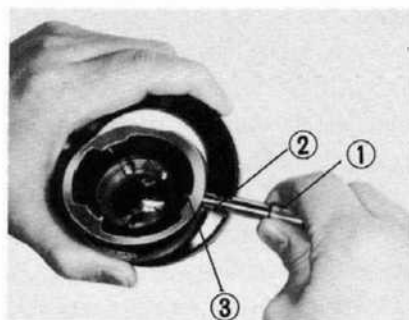

Fig. 10
- 2) Unscrew the clamping screw ① of the nosepiece until it clears the thread ②. Pull spring-loaded clamping screw. This will cause the locating pin ③ to withdraw. (Fig. 10)